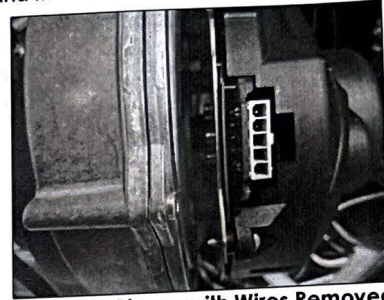

Figure 3 - Blower with Wires Removed
Step #3 - Unplug all wires and cables from the blower, including the spark igniter and flame rectification probe. See Figure 3.
Step #3 - Use a 5/32" allen wrench and the four (4) screws to install the blower to the air channel. See Figure 3. Ensure the blower gasket is installed between the blower and the air channel.